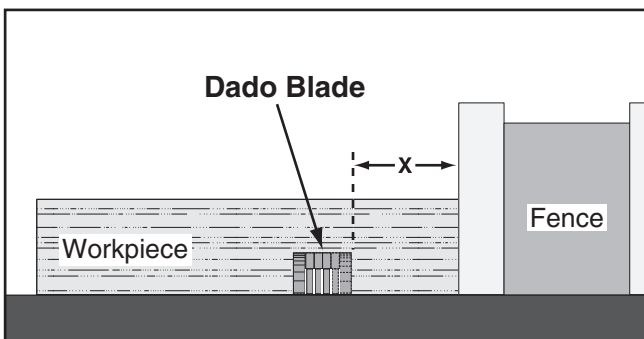

Figure 54. Example of a dado cut with a dado blade.
Commonly used in furniture joinery, a dado is a straight channel cut in the face of the workpiece. Dados can be cut using either a dedicated dado blade or a standard saw blade. **Figure 54** shows a cutaway view of a dado cut being made with a dado blade.
2. Adjust the distance between the fence and the inside edge of the blade, as shown in **Figure 54**, to dado the length of a workpiece.